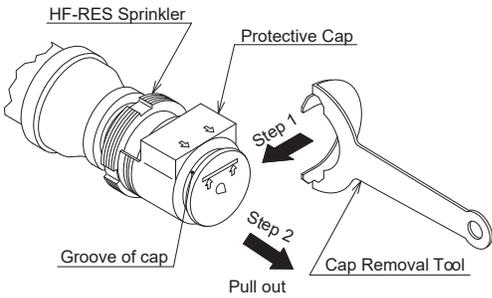
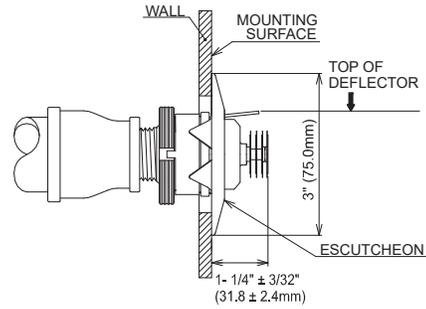
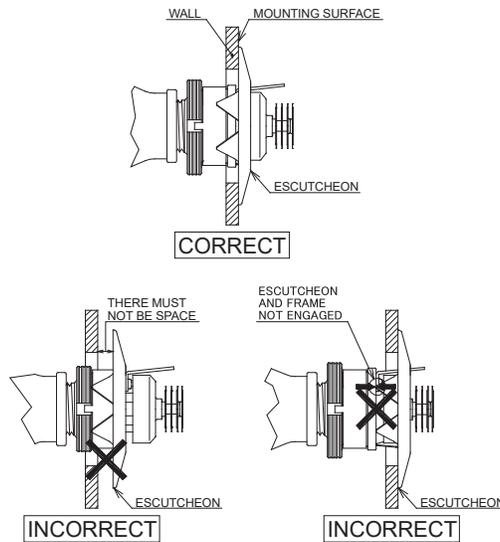

Figure 5: Protective Cap Removal
Figure 6: Installation
Figure 7: Installation (Correct and Incorrect)
Step 6: After the back wall has been completed with the 2-3/8inch (60mm) diameter clearance hole, use the Protective Cap Removal Tool (Ref. Figure 5) to remove the Protective Cap and then push on the Escutcheon until its flange just comes in contact with the back wall (Ref. Figures 6 & Figure 7).